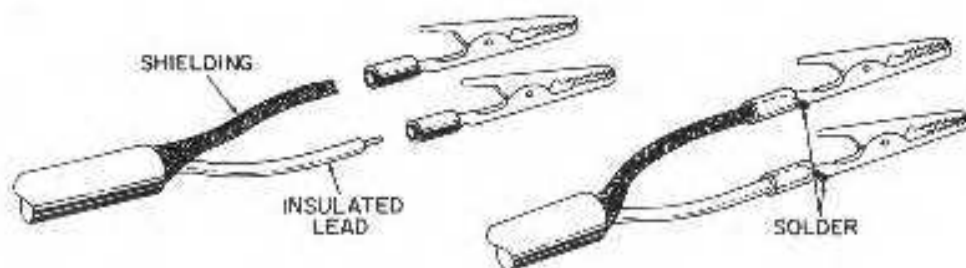

FIGURE 18
- ( ) 101. Pull the shield between the black insulation and the inner conductor until the shield fits snugly around the inner conductor. Strip 1/4" of the clear plastic insulation from the end of the inner conductor. Tin and insert this end into an alligator clip so that the tinned end enters the formed slot (Solder). See Figure 18.
- ( ) 102. Squeeze the end of the shield with a pair of long nose pliers, tin the end and insert it into the other alligator clip. Guide the tinned end through the hole above the formed slot, bend it over the metal and solder to the body of the alligator clip. See Figure 18.